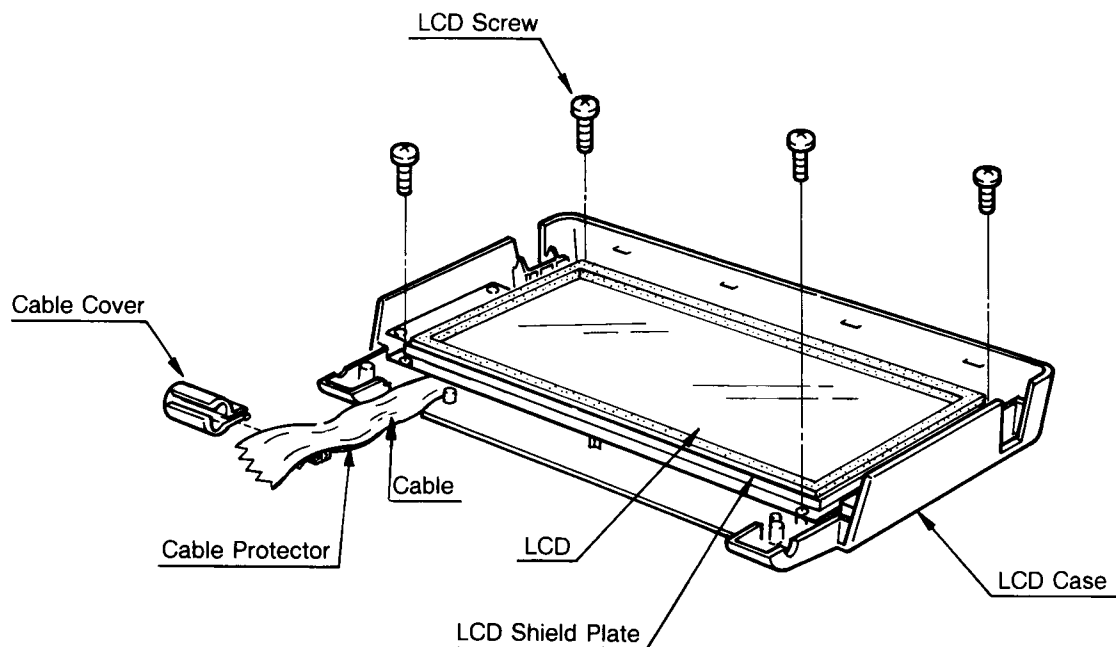

Figure 2-9. Cable Cover and LCD Removal
- (6) Remove the Cable Cover from the Cable. (Figure 2-9)
- (7) Remove four LCD screws and remove the LCD unit and the cushion below.